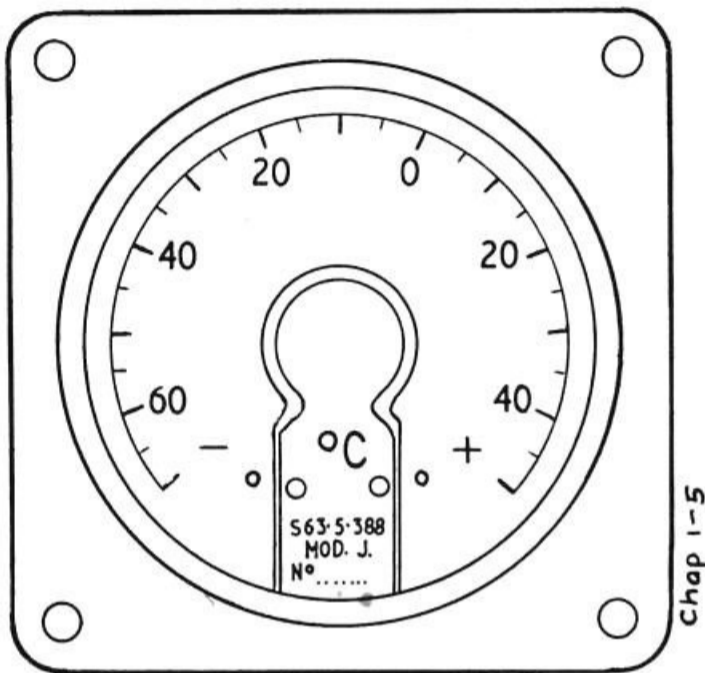

Fig. 1. Indicator, Type S63.5.388
1. This indicator (Ref. No. 6A/4697) (fig. 1) is calibrated in degrees C from -70 to +50; the indicator is controlled by variation of temperature in a resistance bulb which obeys a platinum law.